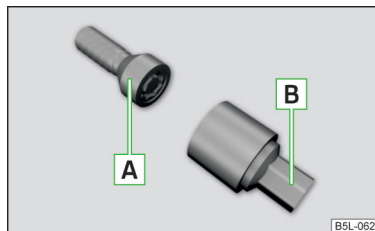

Fig. 120
The anti-theft wheel bolts protect the wheels from theft. These can only be loosened or tightened with the use of adapter **[B]** » Fig. 120.
- Insert adapter **[B]** » Fig. 120 with the toothed side all the way into the inner teeth in the head of the anti-theft wheel bolts **[A]**.